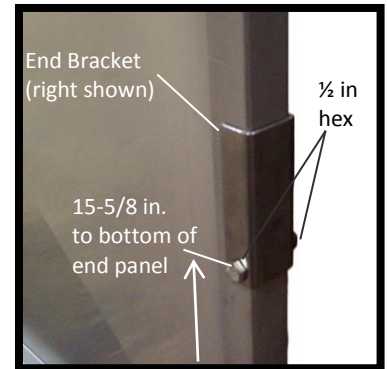

Figure 44: Mounting an end panel shelf mounting bracket
1. Drill a 5/16 in. hole completely through the rear vertical frame of the end or partition panel about 15-5/8 in. up from the bottom of the panel (Figure 44). **Note:** This will result in top of the resting shelf being approx. 18 in. above the bottom of the panel. You may mount the shelf higher or lower if preferred.